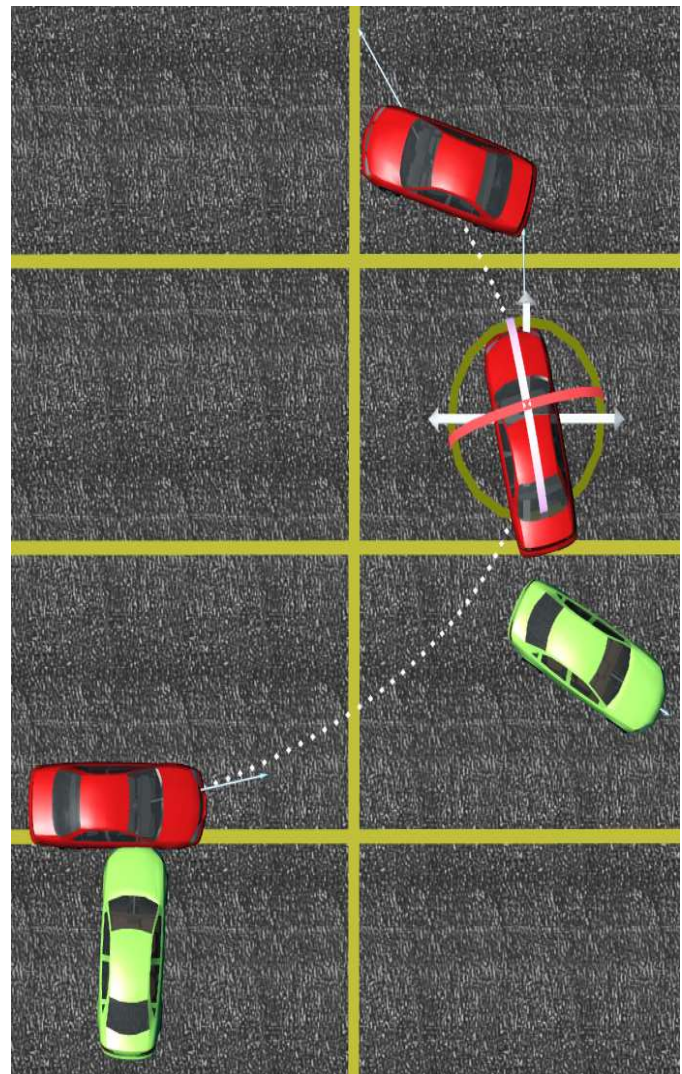

Figure 2 - Spiral post-impact path trajectory defined by the vehicle velocity vectors
- **Dragable Velocity Vector** - The user can click and drag the velocity vector in much the same way as he/she drags the vehicle into position. The current sideslip angle is displayed in the Position/Velocity dialog. Dragging the velocity vector directly influences the resulting path if the *Velocity Vector* path tangent option is selected, as shown in Figure 2.